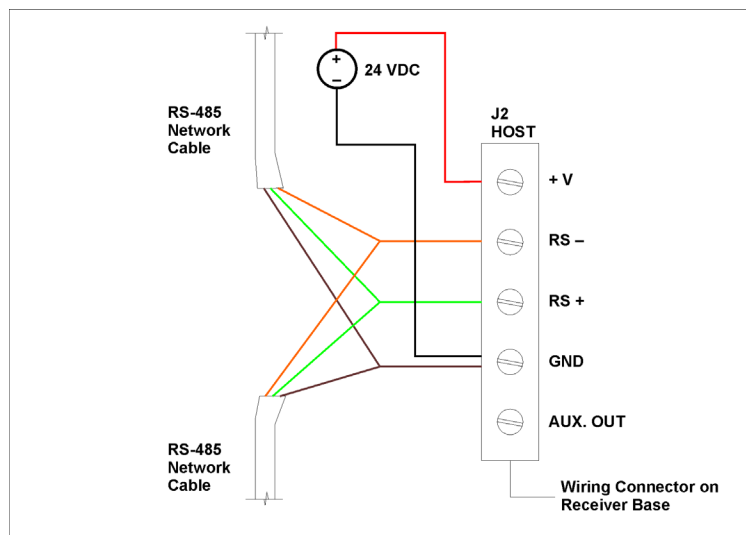

Figure 3-12: Receiver Wiring Diagram
- 3 Connect the RS-485 cable: (see Figure 3-12 on page 3-25):
- 4 Connect the 24 VDC power cable (see Figure 3-12 on page 3-25):